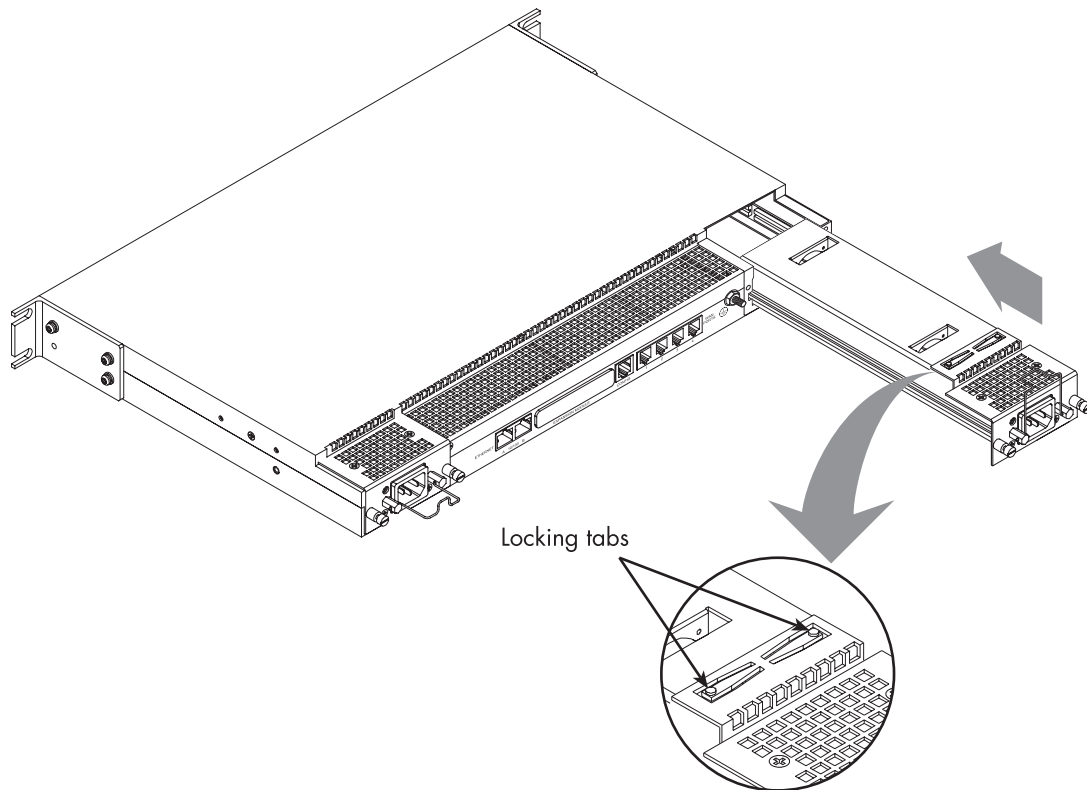

Figure 48. Installing the power supply
7. Insert the power supply into the RAS chassis (as shown in figure 48) until the locking tabs are pressing against the chassis. When that occurs, push down on the locking tabs while pressing the power supply completely into the chassis.